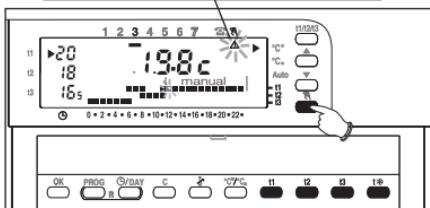

Fig. 34
- Briefly press  and the indicator  will blink beneath  and the current temperature level will be applied to the remaining hours of the day (fig. 34).